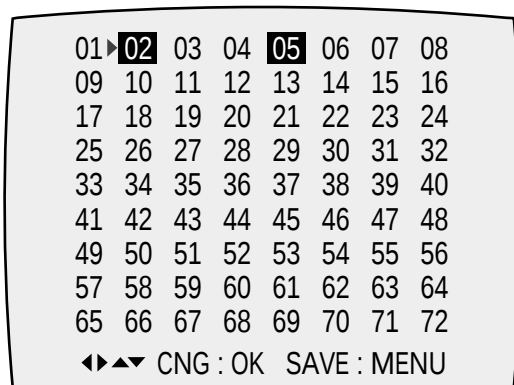

Fig. 5-14
- 2) Press the “MENU” button on the remote control about 5 seconds then option setting display is appeared. (See Fig. 5-14)
(If “OK” button is pressed, the selected number is changes reversed color. ; See Fig. 5-14)